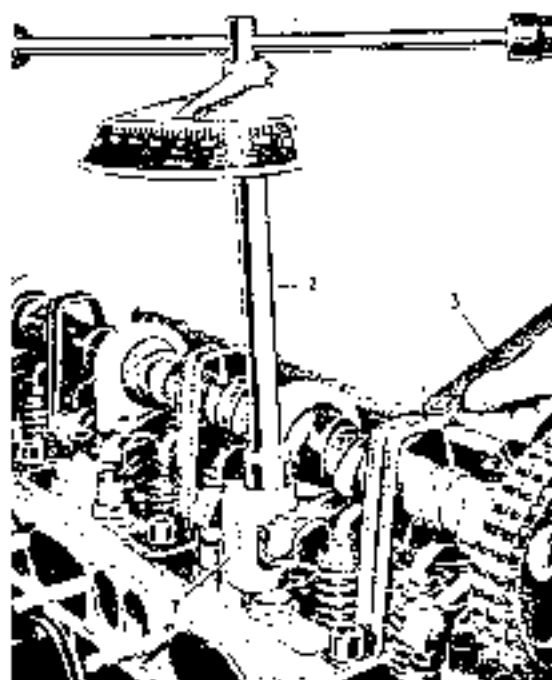

Fig. 01-3/1
If models 180 c and 190 SL with top new valve timing require a correction of their tappet clearance, adjustments are made by turning the upper portion of the ball pin at the hexagon portion (SW 14) of the adjuster 11 137 001 (1) and a torque wrench (0-6 mkg) (2) (Fig. 01-3/1). The small diameter diameter is increased by screwing ball pin too down, too large a tappet clearance is decreased by screwing the ball pin too out. When turning the ball pin too in its socket (1) the adjusting torque should be at least 1.5 mkg (Fig. 01-6/2a). If the adjusting torque is less, either the ball pin too (2) or the ball pin socket (1) or both parts should be replaced. If the tappet clearance is too small and the ball pin too cannot be further adjusted (turns down) by means of the hexagon SW 14 into the ball pin socket, a thinner thrust piece (3) may be inserted into valve spring retainer (4) (Fig. 01-4/2a). Normally, on these parts are 2.5 mm thick, they are also available 3.5 mm and 4.5 mm in cc. Replacement of a thrust plate requires disassembly of the rocker arm (refer to Job No. 19-1).